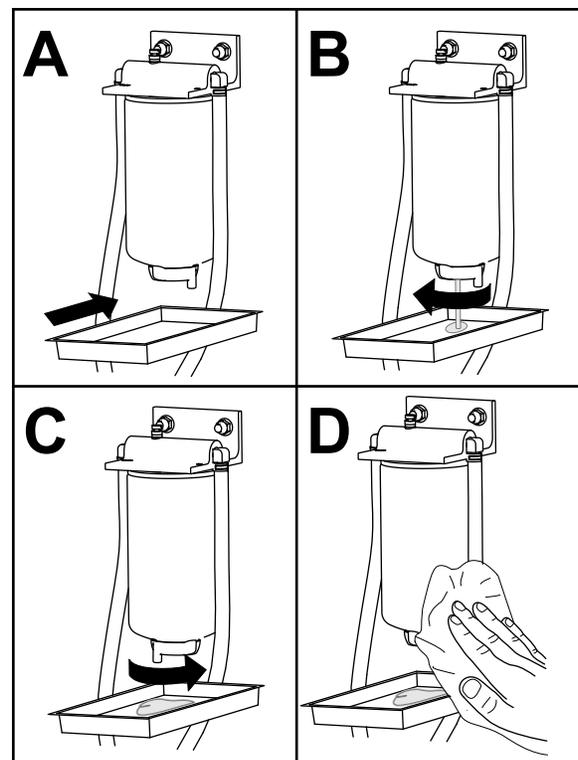

Figure 78
1. Drain water from the fuel/water separator as shown in Figure 78.